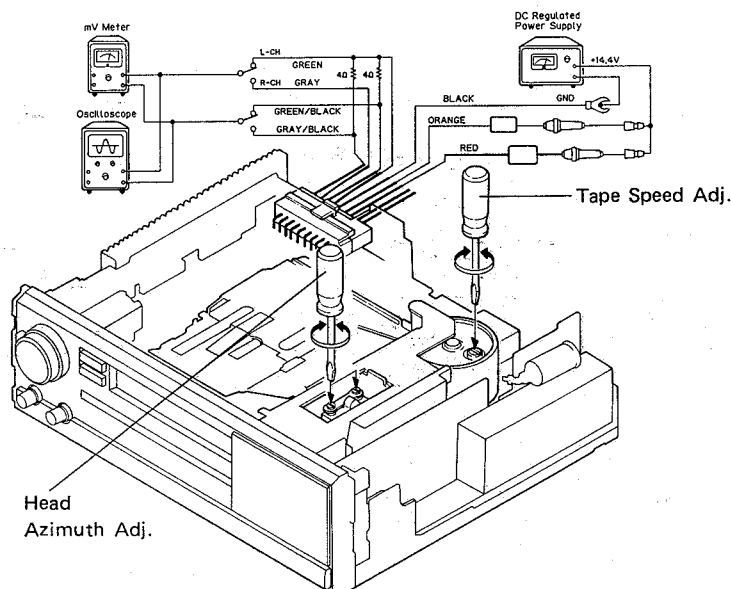

Fig. 32
• Connection Diagram (shown in Fig. 32)